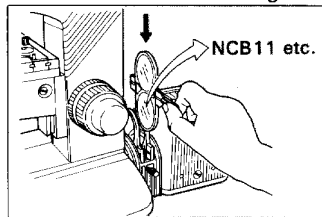

Fig. 3-3
- 3) Put the NCB 11 filter (or necessary filter) into the optical path (Fig. 3-3).